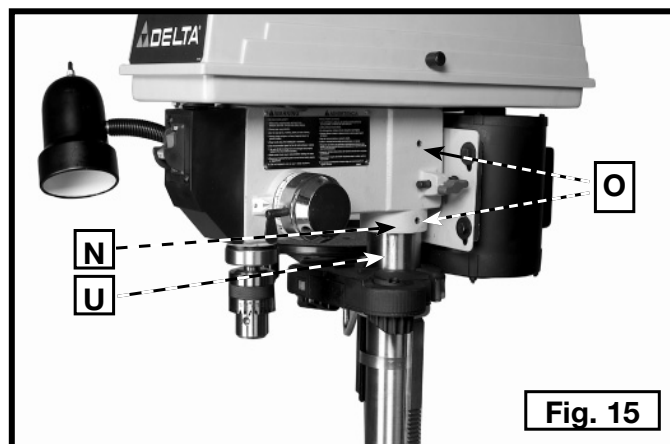
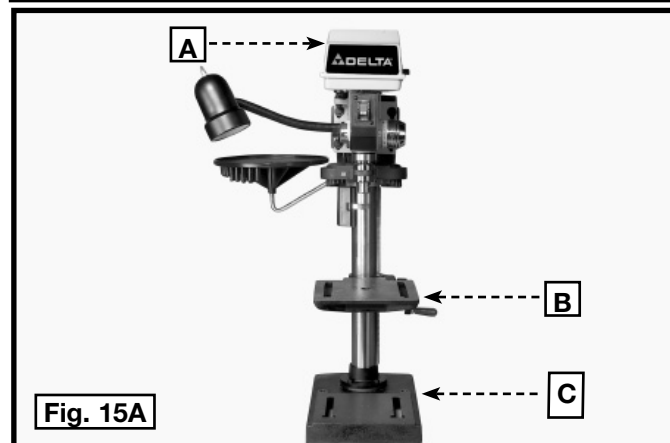

Fig. 15
Fig. 15A
16. Connect a 9-volt battery (G) (not included) onto the battery terminal (H).
17. Place battery into the compartment (I) and replace the cover.
18. Seat the drill press head (N) Fig. 15 on the column (U). Align the head (A) Fig. 15A, with the table (B) and base (C). Tighten the two head locking screws (O) Fig. 15 with the supplied wrench.